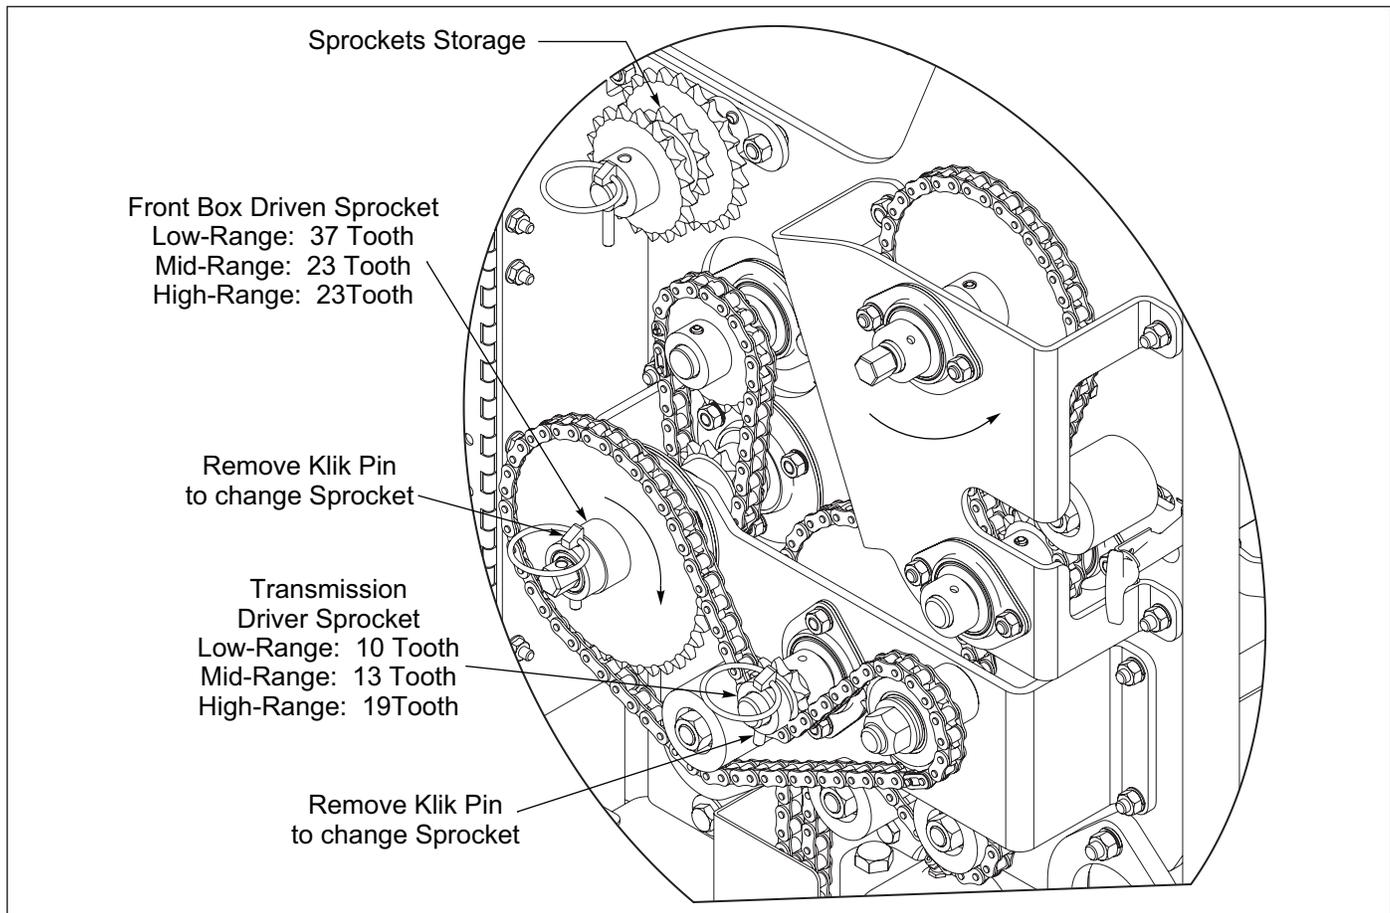

Figure 3-11: Front Box Range
2. Remove the Sprockets needed from the stored Sprockets. **See Figure 3-11.**